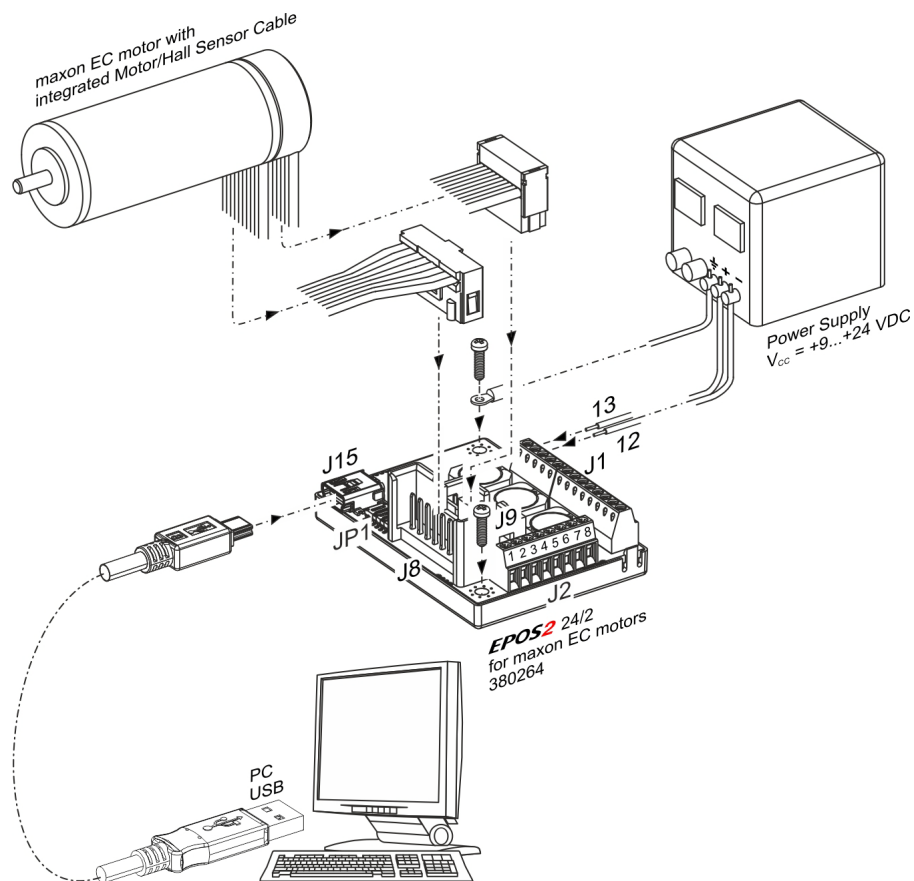

Figure 3-3 Minimum Wiring: maxon EC motor (integrated Motor/Hall Sensor Cable)
- 2) Connect maxon cable assemblies (→ Table 3-6 and Figure 3-3).